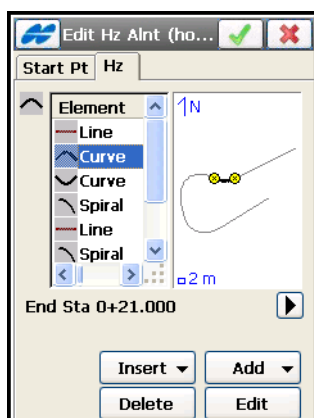

Figure 7-7. Add Horizontal Alignment Elements
3. On the *Hz* tab of the **Edit Hz Alnt** screen (Figure 7-7), add horizontal alignment elements.